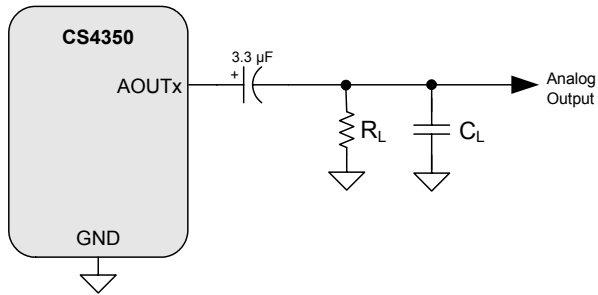
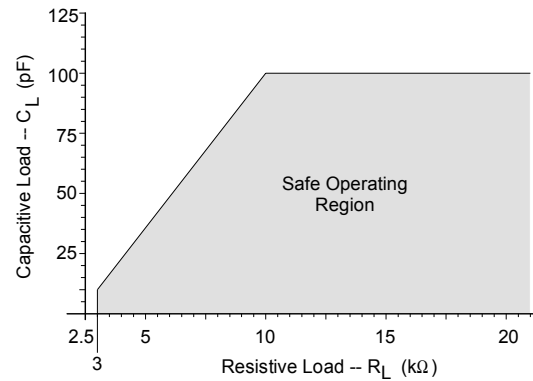

Figure 1. Equivalent Output Load
Figure 2. Maximum Loading
4. R_L and C_L represent the minimum resistance and maximum capacitance required for the CS4350's internal op-amp to remain stable. See Figure 1 and Figure 2 for more details.